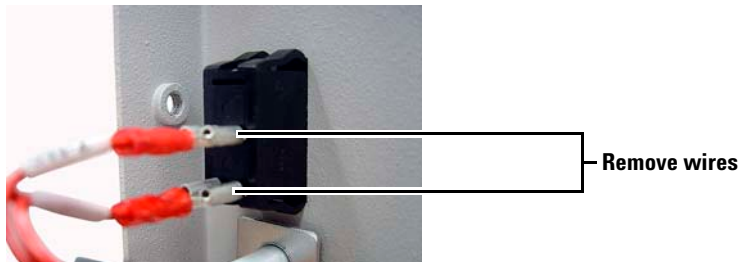

Figure 13 Wires to remove from the on/off switch
- 2 Inside the cabinet remove the two wires **SW-1** and **SW-2** from the on/off switch (Figure 13).
- 5 With the raised end of the switch at the top, push the new switch in place. (The two wiring connectors will be towards the bottom of the switch, see Figure 13.)